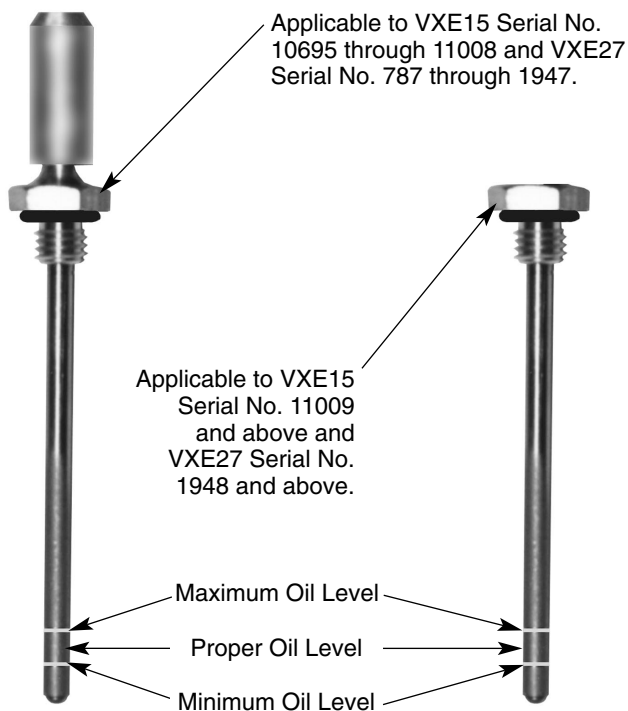

Figure 4.
18. After the recloser mechanism has been reinstalled into the tank, check the oil level using the dipstick provided on the recloser head (Figure 4).
20. If the oil is below the minimum level, fill the recloser with oil to the proper level, using the dipstick opening. Do not exceed the maximum oil level, as indicated in Figure 4.